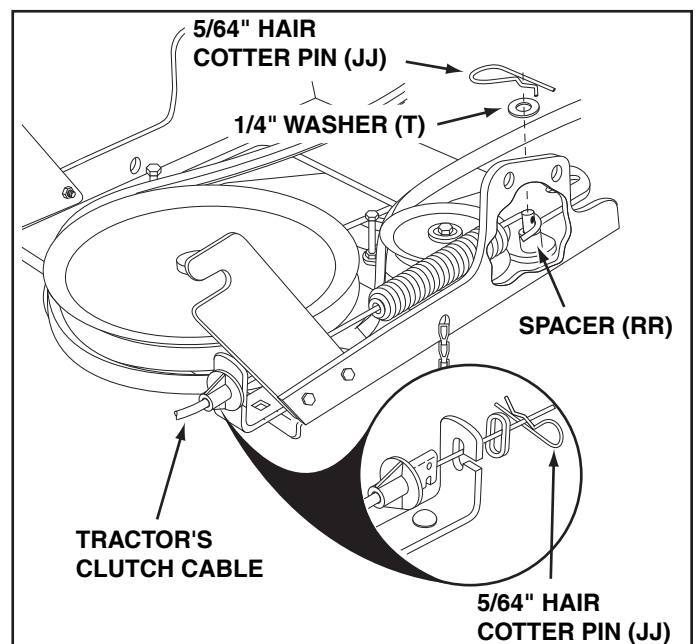

FIGURE 38
STEP 38: (SEE FIGURE 38)
- Attach the tractor's clutch cable to the cable bracket. Secure the cable housing guide (groove down) to the cable bracket using the original collar and a 5/64" hair cotter pin (JJ).
- Place a spacer (RR) on the welded pin on the idler arm. Hook the end of the clutch spring over the pin and secure it with a 1/4" washer (T) and a 5/64" hair cotter pin (JJ).